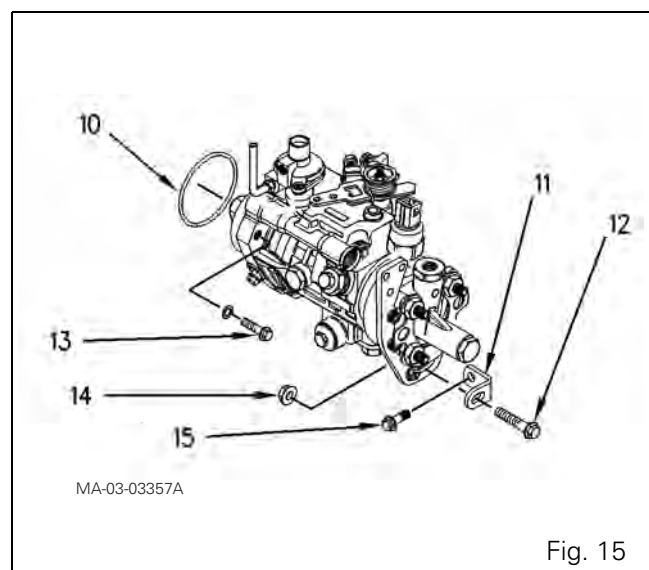

Fig. 15
- 79. Take out the nut (14) and screw (12) (Fig. 15).
- 80. If necessary, take out the screw (15) and the bracket (11) from the engine block.
- 81. Take out the screws (13) to remove the injection pump.
- 82. Remove the injection pump. Take off and discard the "O" ring (10).